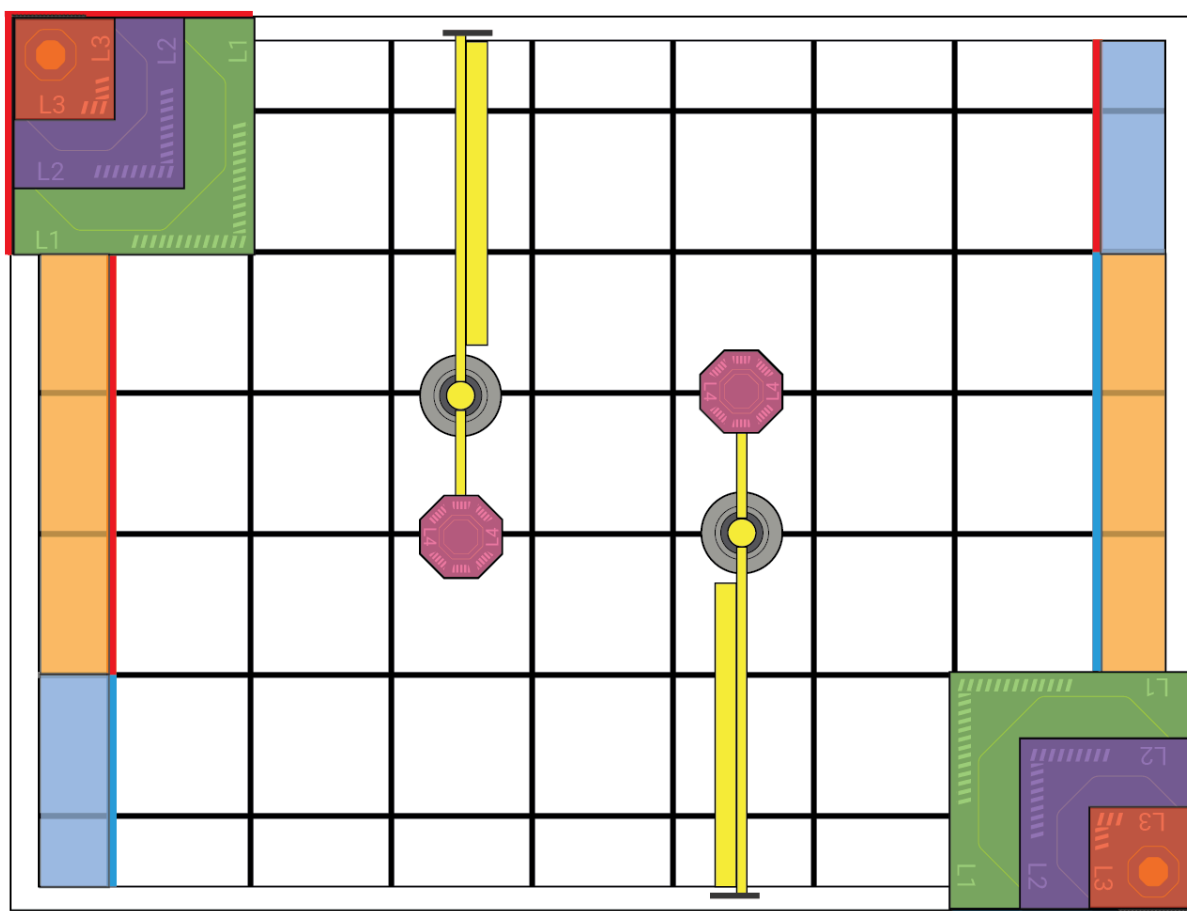

Figure 1.5.2
- **Floor Goal** - A scoring location that consists of a vertical projection above a defined area of the field bordered by the inside of the field perimeter and the inside edges of the adjacent VEX IQ® parts; the floor goals are highlighted in orange in figure 1.5.2
- **L1, L2, or L3 Goal** - A scoring location that consists of a vertical projection above a labeled plastic sheet on one of the two tiered plastic structures on the field, marked as L1, L2, or L3; L1 goals (2.5" from the floor) are highlighted in green in figure 1.5.2, L2s (5.0" from the floor) are in purple, and L3s (8" from the floor) are in red
- **L4 Goal** - A scoring location that consists of a vertical projection above a flat plastic surface, marked as L4, attached to the top of a vertical PVC segment; the L4 goals (24" from the floor) are highlighted in pink in figure 1.5.2
- **Load Zone** - A section of the field, bordered by the inside of the field perimeter and the inside edges of the adjacent VEX IQ® parts, where drive team members can place team-loaded bean bags (see rule 3.3.4); the load zones are highlighted in blue in figure 1.5.2
Figure 1.5.2 highlights the following defined goals and zones: